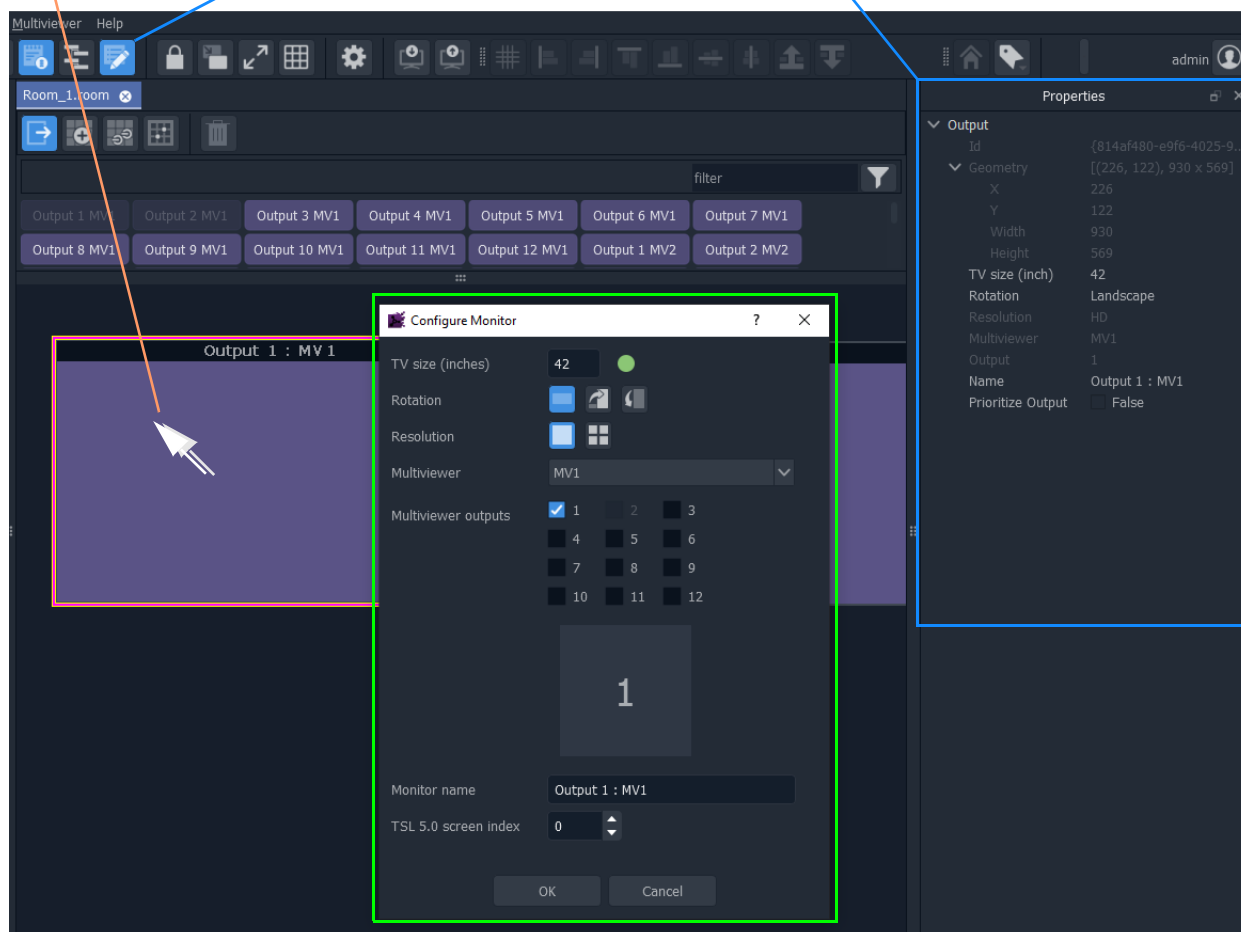

Fig. 8-20: Configure Monitor Dialog
The **Configure Monitor** dialog is shown (see Figure 8-20), where monitor properties can be changed.
- Select the 'Properties Window' button in the main tool bar. See Figure 8-20.)